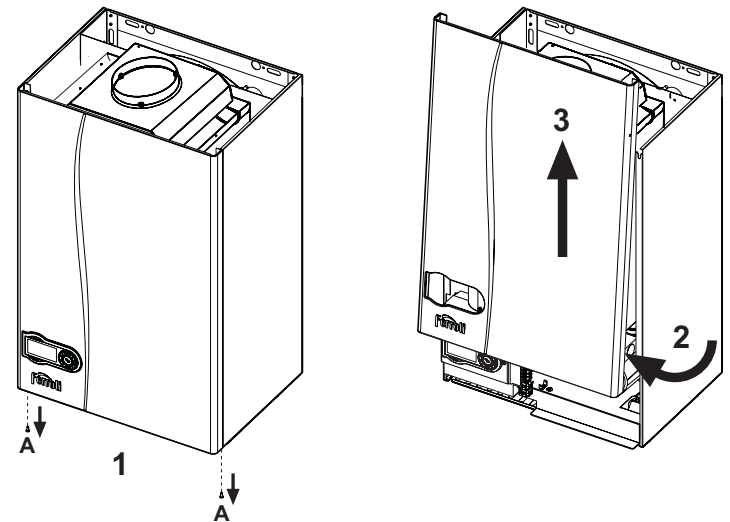

fig. 21 - Opening the casing
1. Undo the screws A (see fig. 21).
2. Turn the casing (see fig. 21).